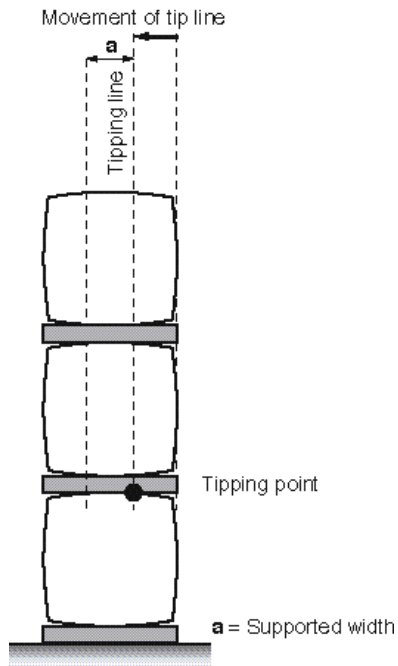

Figure 4 The effect of out-of-shape packs on stability - balled packs
- Packs can also ball or roll (Figure 4), moving the tipping line inwards, having the effect of reducing the width of the pack (ie only part of the width of the pack is supported). This makes the stack far less stable.